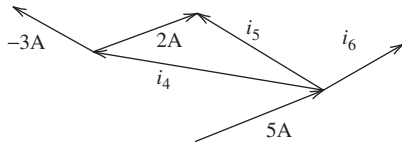

FIGURE P2.22 Image for Problem 2.22.
2.22 (B)* Use KCL to find i_4 , i_5 , and i_6 in Figure P2.22.